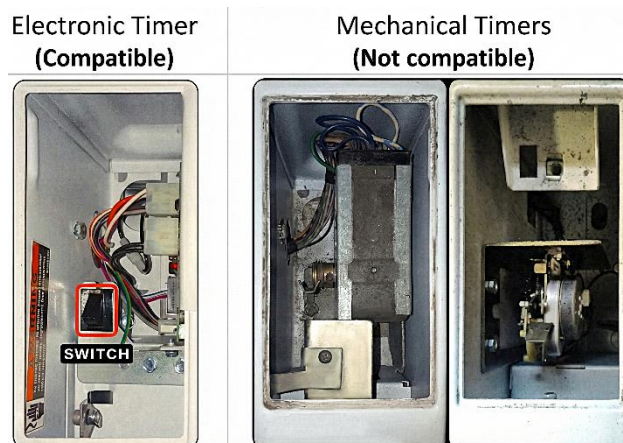

Figure 24
1. Open the coin slide service door to verify it has a compatible Electronic Timer as seen in **Figure 24**.